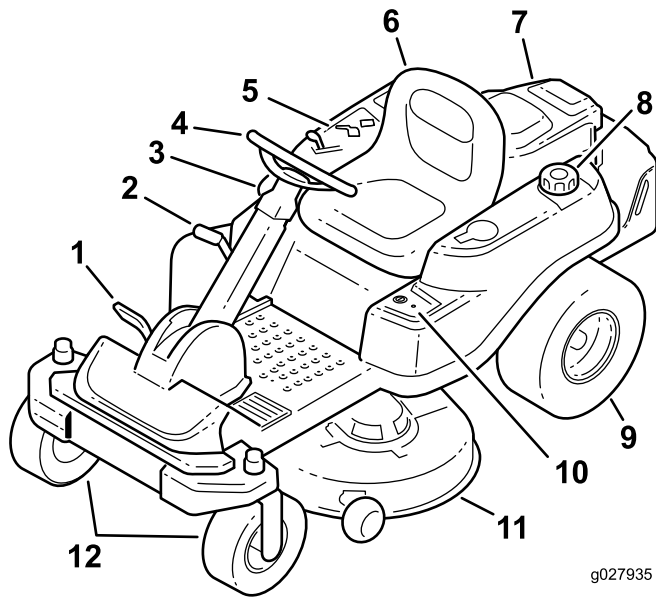
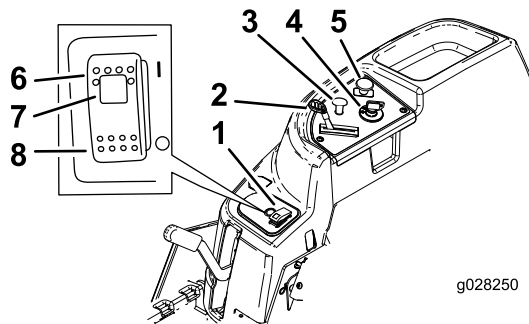

Figure 5
Figure 6
Become familiar with all controls in Figure 5 and Figure 6 before you start the engine and operate the machine.
Use the choke to start a cold engine. Pull the choke knob up to engage it. Push the choke knob down to disengage it (Figure 6).
The throttle controls the engine speed, and it has a continuous-variable setting from the SLOW to FAST position (Figure 6).
The blade-control switch (PTO) engages and disengages power to the mower blades (Figure 6).
Use the height-of-cut lever to lower and raise the deck from the seated position. Moving the lever up (toward you) raises the deck from the ground and moving the lever down (away from you) lowers the deck toward the ground. Adjust the height-of-cut only while the machine is not moving (Figure 5).
- Pressing the Smart Park™ switch to the ON position (Figure 6).